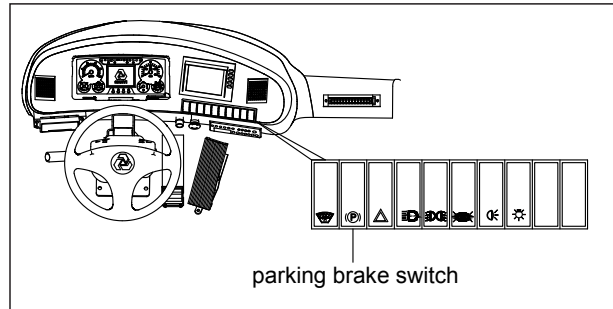

Fig 4.12
1. Make sure the park brake control is in the 'PARK' position.(see Fig 4-12).